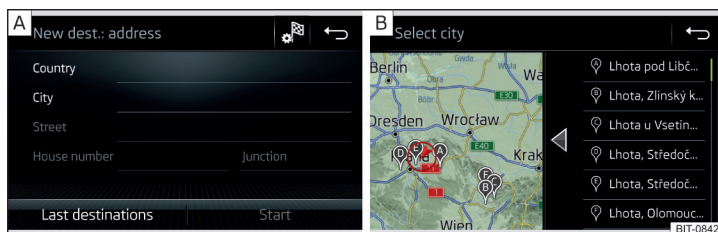

Fig. 212 Enter destination using the address: Main menu / List of visited destinations
- › Enter the destination address and then confirm » Fig. 212 - **A**.
Depending on the number of places visited, a map with a list of visited places can be displayed automatically » Fig. 212 - **B**.